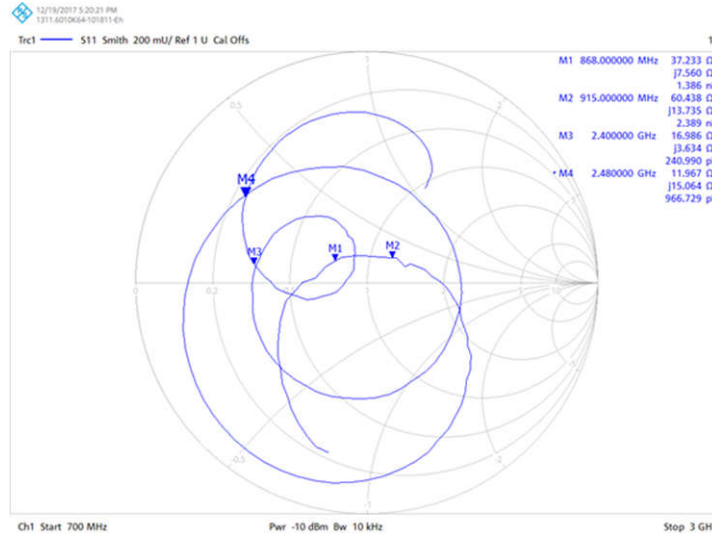
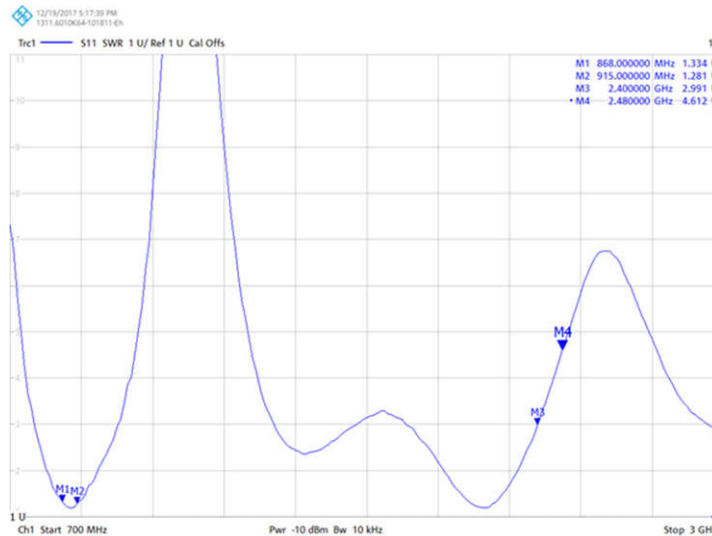

Figure 5-5. Smith Chart With Final Match Values of L_{HIGH} : 3.3nH and C_{LOW} : 5.6pF
Figure 5-6. VSWR Chart With Final Match Values of L_{HIGH} : 3.3nH and C_{LOW} : 5.6pF
- 2.44GHz: 16+j8, VSWR: 3.18:1 Reasonable match at the high-band but would prefer VSWR < 2.00:1; see Figure 5-5 and Figure 5-6.